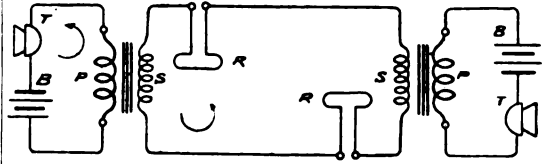
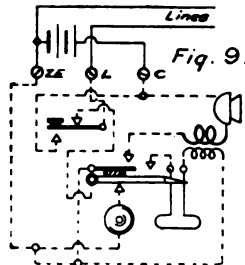
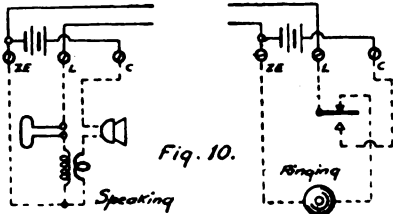

Fig. 8.
Fig. 9.
Fig. 10.
in the transmitter or primary circuit give rise by inductive action to variable currents in the line or secondary circuit, which currents actuate the telephone R. The introduction of the induction coil enables speech transmission to be enormously improved in two ways. By making the primary coil of a small number of turns of comparatively low resistance we have the necessary conditions, as just explained, for maximum efficiency of the microphone. Forming the secondary of a large number of turns of small gauge high-resistance wire, the secondary current is reduced, while the secondary E.M.F. is raised. As a result, the energy to be transmitted in the secondary circuit is not wasted by large heating losses in the line (such losses increasing as the square of the current) and, consequently, smaller line conductors may be used. The induction coil is, in fact, a "step-up" transformer, and the ratio between the primary and the secondary voltages is theoretically equal to the ratio between the number of turns of the two windings. A complete talking circuit between two stations is shown in Fig. 8. A combination of Fig. 8 with Fig. 1 will readily yield the necessary connections to the automatic switch. The full connections for a three-terminal set are given in Fig. 9, while the connections during speaking or ringing are shown in the two diagrams of Fig.
10. Referring to Fig. 9, it will be noticed that the switch-hook has an auxiliary contact-arm insulated from the main body of the hook, and also that the primary and secondary windings are joined together at one end in the speaking position, as is more clearly shown in Fig. 10. The object of this last is to simplify the switch-hook construction, as otherwise an extra contact would be required. This simplification in no way interferes with the
action of the primary and secondary circuits, as an inspection of Fig. 10 will show. Incoming speech currents pass through the telephone, the secondary coil, and the switch-hook to the return line, and the primary circuit clearly has no shunting effect on these. Variable currents in the primary circuit are transmitted inductively to the secondary circuit, formed of the secondary coil and the line circuit in the ordinary way. The three terminal set just described is suitable for short distances only, as the same battery is used for signalling as for speaking. On a long line the current required for ringing requires a larger battery on account of the voltage drop in the line. Such a battery is too strong for the speaking circuit, as it causes arcing to take place between the carbon granules of the microphone, and the speaking is impaired. This difficulty is got over by the use of a four-terminal instrument, in which the battery for ringing purposes may be made as large as necessary, a portion only (say one or two cells) being tapped off for the speaking circuit. There are two patterns of the four-terminal instrument—one in which the switch-hook in rising disconnects the bell circuit